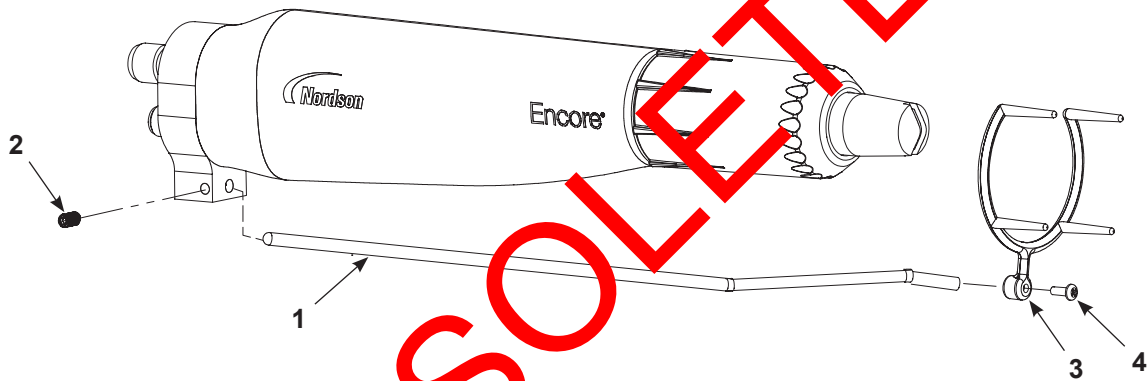

Figure 3-4 Ion Collector Installation - Bar-Mount Spray Gun (for clarity, some parts are not shown)
1. See Figure 3-4. Insert the collector rod (1) into the grounding plate and secure it with the M5 x 8 set screw (2) included in the ion collector kit.
2. Attach the multi-point tip (3) to the collector rod using the M3 x 8 screw (4).